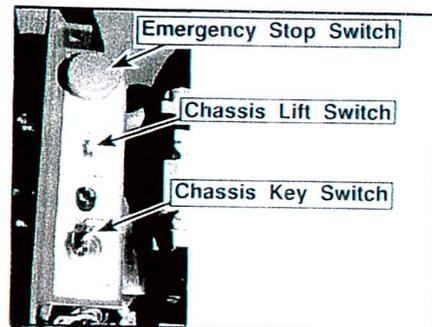

Figure 2: European Chassis Control Panel
10. **If equipped**, turn the Chassis Key Switch (Figure 2) to **CHASSIS**.
15. **If equipped**, turn the Chassis Key Switch (Figure 2) to **DECK**.